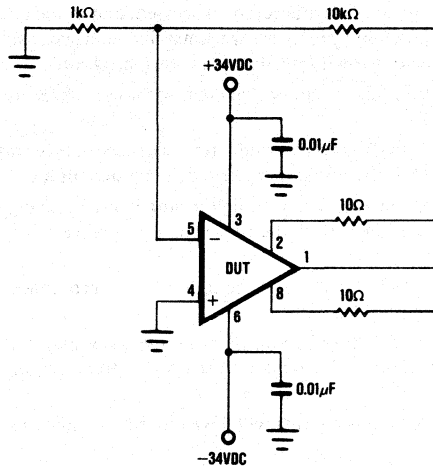

FIGURE 3. Test Circuit—Burn-in and Operating Life Test.
- (1) Test condition B
- (2) Test circuit is Figure 3 herein
- (3)  $T_A = +125^\circ\text{C}$  minimum
- (4) Test duration is 160 hours minimum
- (4) Test condition is 1000 hours minimum